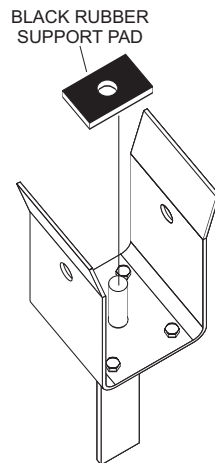

Figure 3. Black Rubber Pad
4. Remove black rubber support pad (Figure 3) from mast support cradle. Set rubber support pad aside.